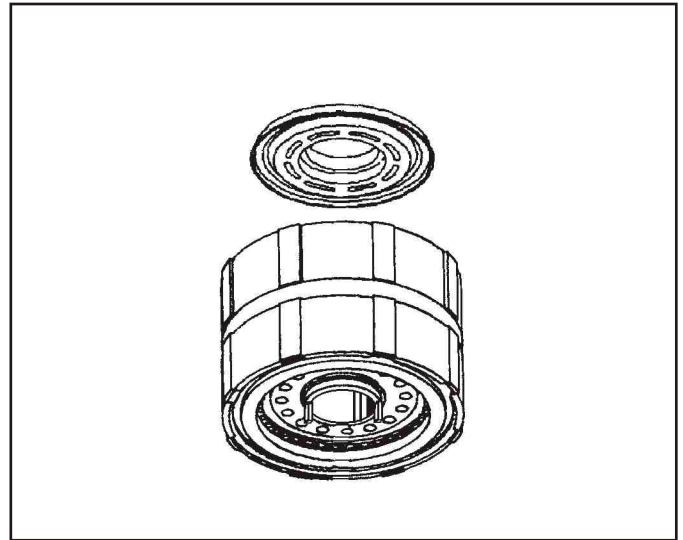

Figure 100
- Carefully apply approximately 5 psi of air pressure to the clutch housing feed orifice and blow the piston out of its bore or gently tap the drum on the bench until the piston comes out of its bore (See Figure 100).